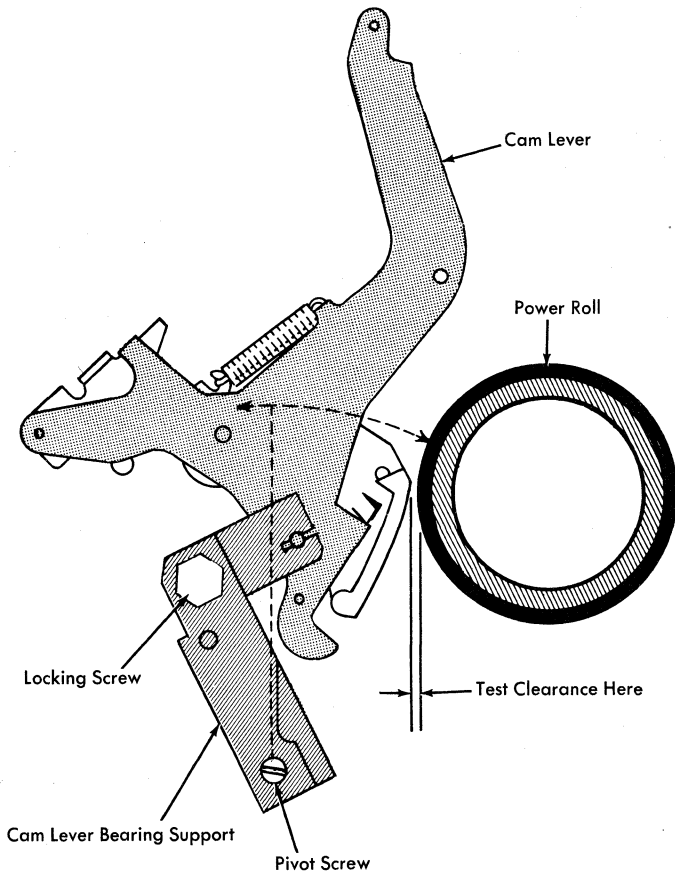

Figure 4. Letter Cam Clearance Adjustment
1. Adjust clearance between the cams and the power roll for all letter cams simultaneously by loosening the locking screws in the side frames and moving the cam lever bearing support on its pivot studs until the cams clear the power roll by .015"-.020". Observe that the clearance is within these limits for all cams (Figure 4). NOTE: The letter cam clearance on EAM typewriters equipped with magnet units (Type 866-868) is held within .012"-.018".